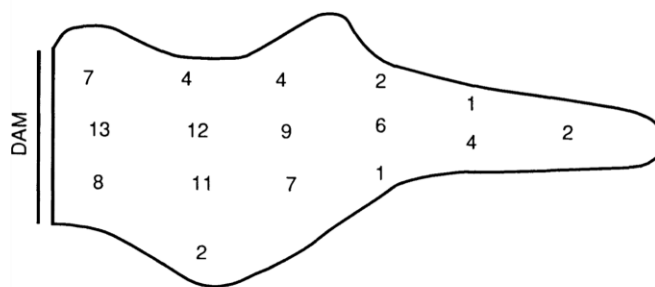

Figure 5. Example of pond depth measurements taken in a grid pattern.
Record all depth measurements, add them together and divide the total by the number of measurements taken. For example, in Figure 5, the sum of the depth measurements totals 93 feet. Divide 93 by 16 (the number of measurements) to get an average depth of 5.8 feet. The pond volume in this example (taking the surface area as 6.58 acres from previous example) would be 38.16 acre-feet (6.58 acres x 5.8 feet).
4. Take several water samples from different areas and depths (Figure 5) and test them for chloride concentration. In this example, six samples tested 8.1, 8.3, 8.9, 8.2, 8.5, and 8.6 mg/1 of chloride.